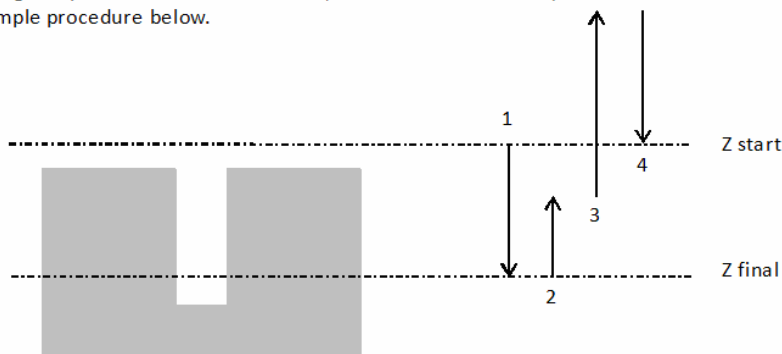

Figure 8.26 – Moves in tapping a hole
(1) Tapping can be done using the M871 (M872 etc.) cycles, tapping code generated by CAM systems such as SheetCAM and, of course, hand written G-code. The recommended sequence is the same in each case (figure 8.26):